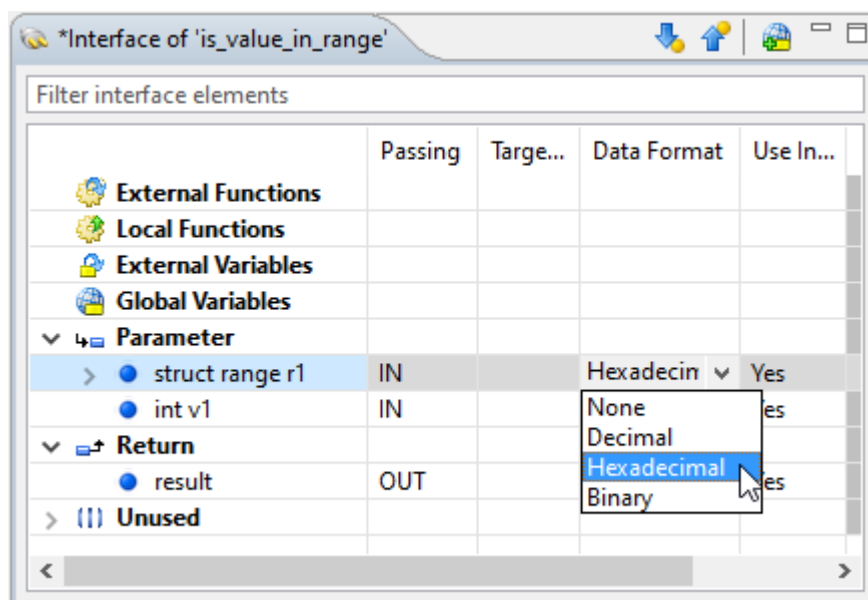

Figure 6.155: Setting the data format
- Click on a format to change it either to “Decimal”, “Hexadecimal” or “Binary” (see figure 6.155).